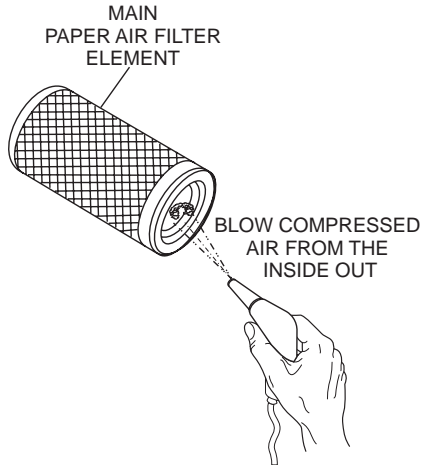

Figure 43. Cleaning Paper Air Filter Element
- To clean the main element (paper air filter), tap the filter element several times on a hard surface to remove dirt, or blow compressed air—not to exceed 30 psi (207 kPa, 2.1 kgf/cm²)—through the filter element from the inside out. See Figure 43.